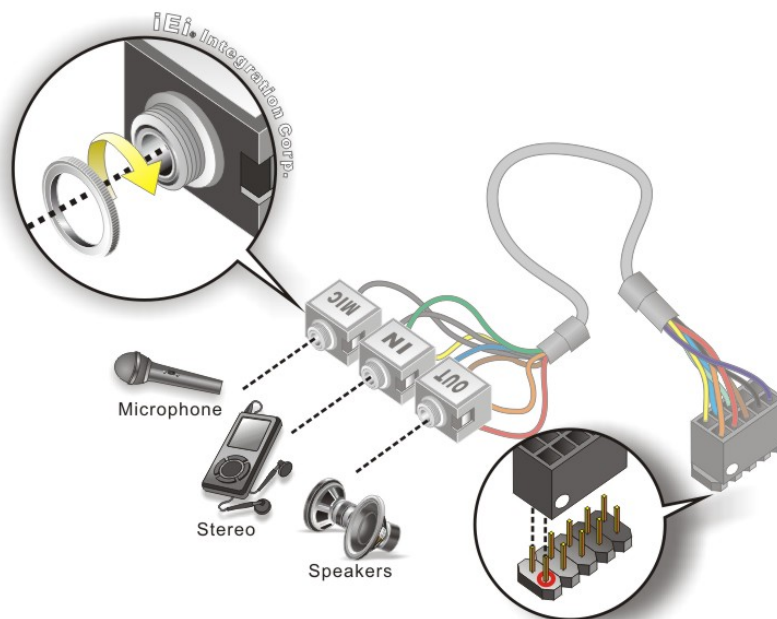

Figure 4-2: Audio Kit Cable Connection
**Step 2:** **Align pin 1.** Align pin 1 on the on-board connector with pin 1 on the audio kit connector. Pin 1 on the audio kit connector is indicated with a white dot. See Figure 4-2.